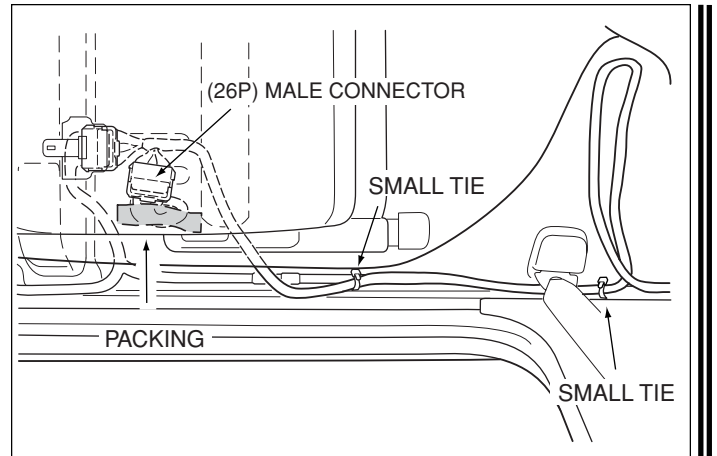

Fig. C6
- ➔ i. Secure the (26P) connector wire to the vehicle's wire harness using 2 small plastic ties with the excess wire positioned as shown. (Fig. C6)
- ➔ ii. Secure the vehicle (26P) wire harness using the (150x60mm) packing (foam tape). (Fig. C6)